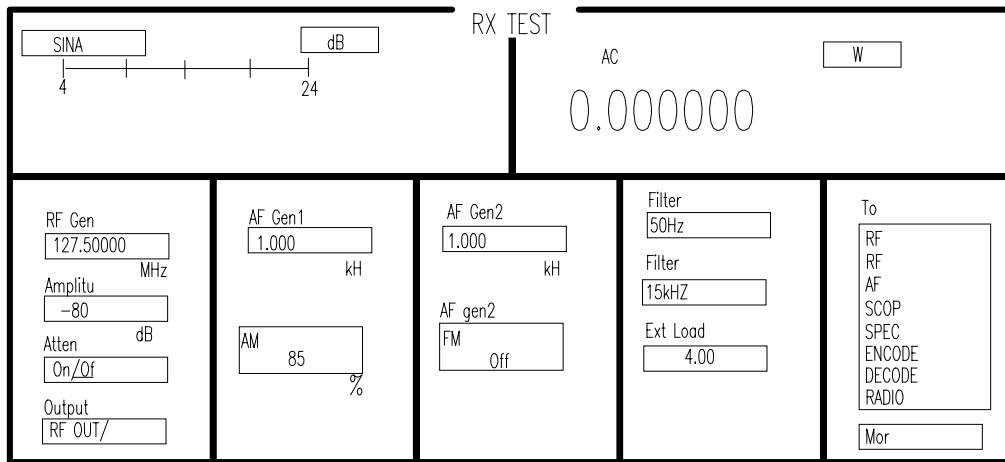

Figure 5. Receiver Test Setup
1. Set the HP 8920 as listed below. Use Figure 3 and Figure 5 as guides.